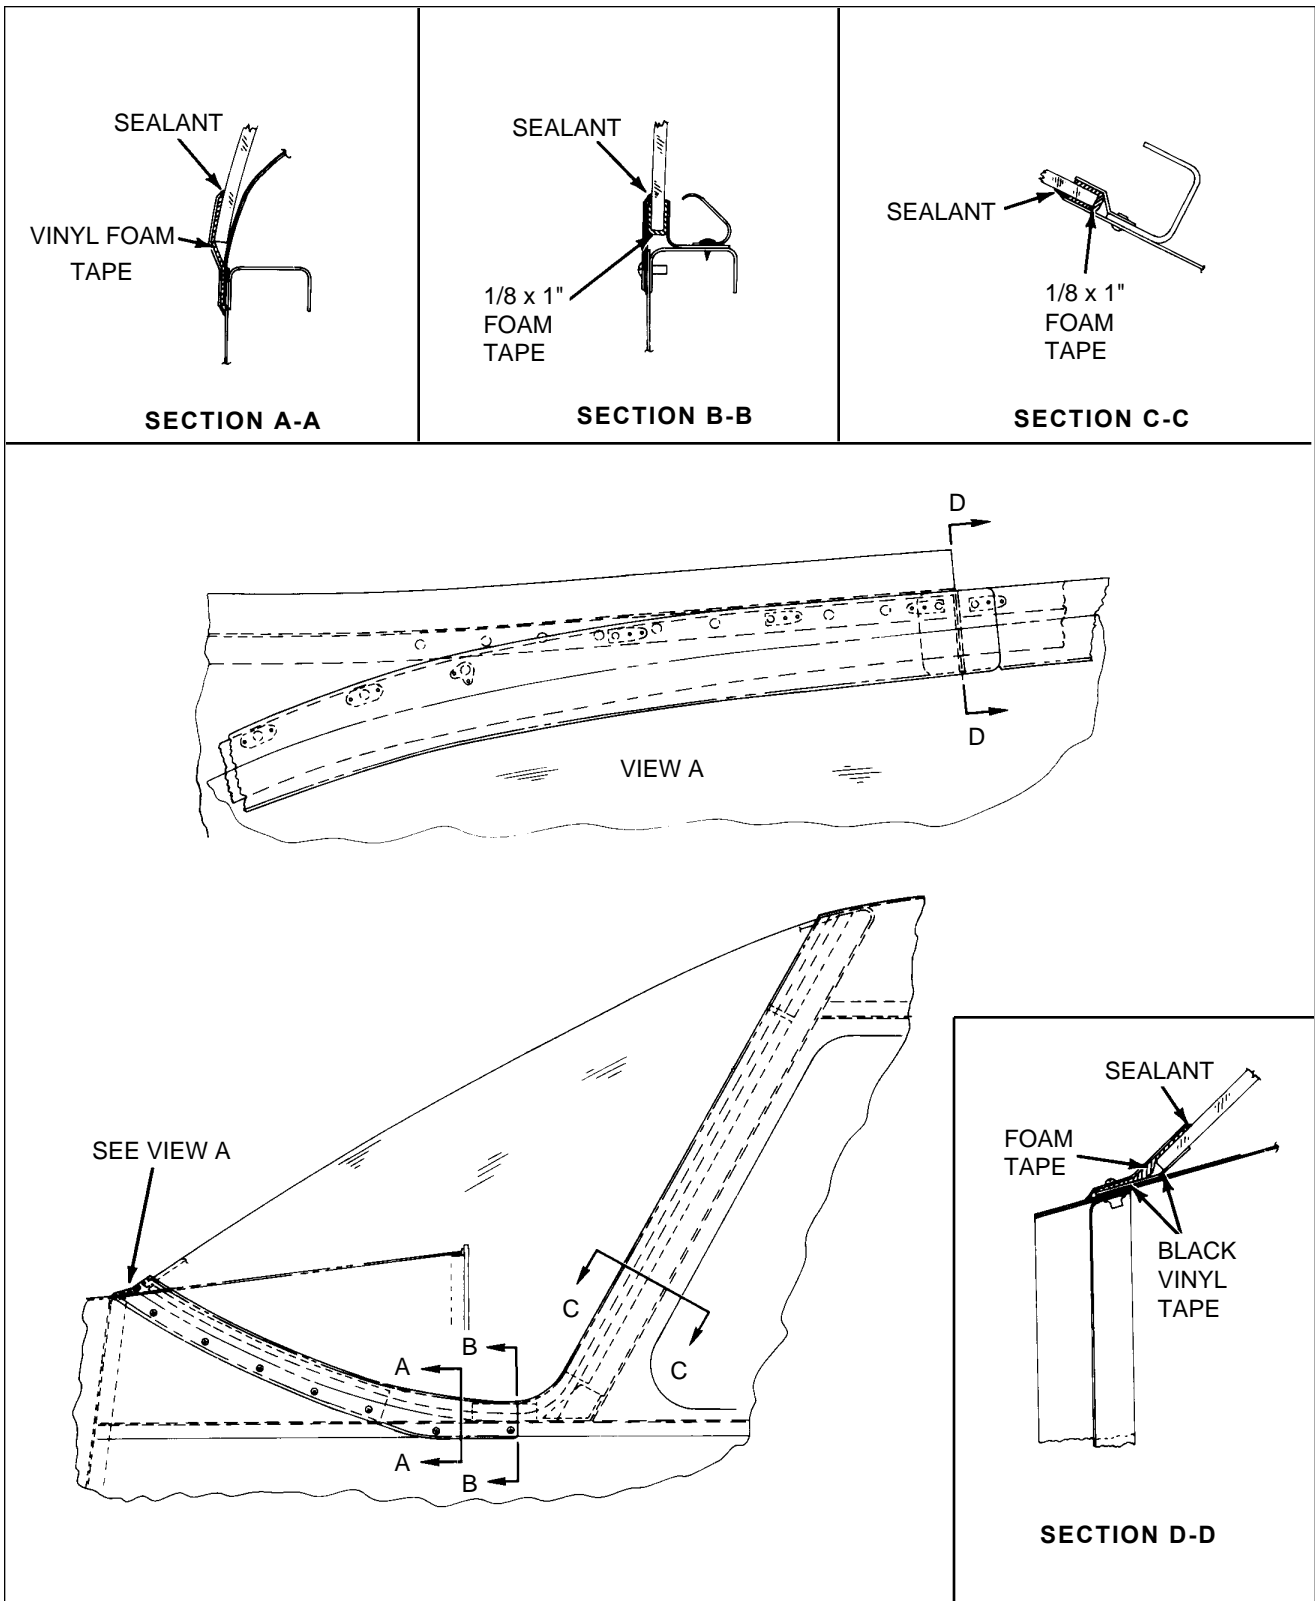

Figure 56-1. Windshield Installation (Typical)
The Seneca III and IV have a one-piece windshield. As shown in Figure 56-1, the windshield aft of Fuselage Station 69.8 is fitted in a channel and sealed with vinyl foam tape. Forward of F.S. 69.8, the windshield is held in place by inner and outer collars which are secured to the airplane by two different types of screws. To facilitate installation, the screws should be cross marked to the collars ensuring the proper screws are replaced in their appropriate positions.
INSTALLATION OF WINDSHIELD (Refer to Figure 56-1.)
2. Apply black vinyl tape to the inside collar surfaces that mate to the windshield and outside collars. Refer to Figure 56-1, Section A-A.
6. Apply sealant ((PRC) PR 307, as specified in List of Consumable Materials) by forcing it under the flange edges specified in Figure 56-1. Mating parts can be separated slightly using a soft wooden wedge or tongue depressor. The sealant must be forced deep into the gap. Avoid bending or scratching aluminum or window surfaces.